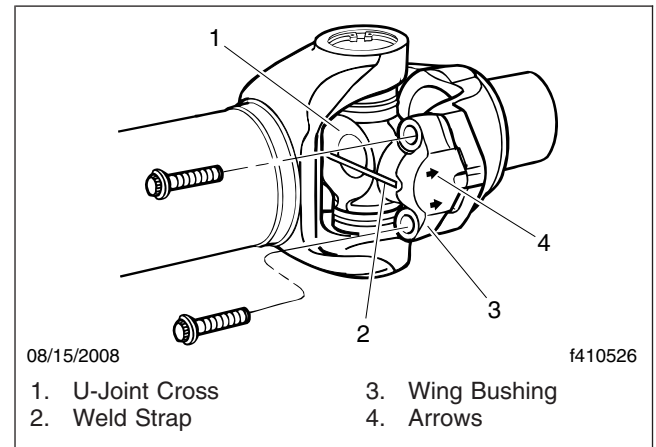

Fig. 11, Fitting the U-Joint
- 4.1 Position the U-joint cross in the driveshaft yoke so that the wing bearing weld strap faces inboard, and the arrows point toward the end of the coupling yoke. See **Fig. 11**.